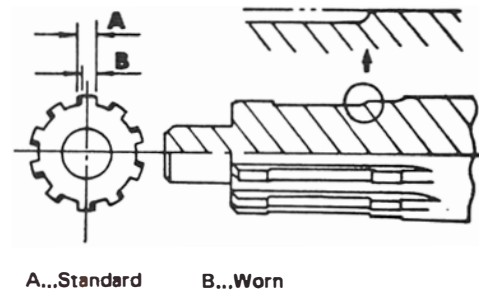

Figure 4
1. Inspect the drive shaft for any worn or damaged splines, Figure 4. The drive shaft splines are subject to defacement when struck by the clutch disc spline during the clutch engagement process. Minor damage can be corrected with a grinder. A more severely damaged shaft will have to be replaced.